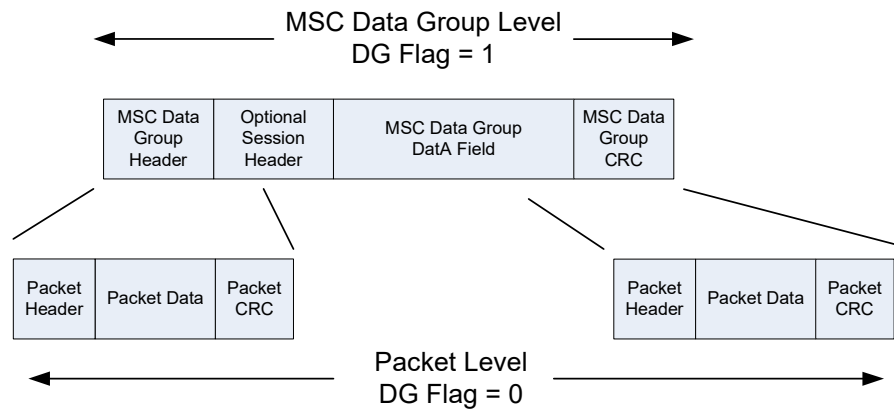

Figure 7. Packet Mode Payload Definitions
Figure 7 shows the level at which data is forwarded to the host for Packet mode based on the state of the data group flag.
- Packet Mode / no Data Groups: Passed to the host as one or more packets from a logical frame with CRC. The format of these packets is entirely defined by the application type. The Si468x firmware performs no repackaging of this data. See Figure 7 for details.
IP Packets are presented in packet mode with data groups. Therefore the data is presented at the data group level as defined in clause 5.3.3 of [1]. The payload in the data group packet will be a single IP packet. See Figure 7 on page 430 for details.